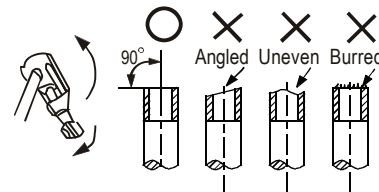

Fig. 9-1
- Cut the pipe with an approved pipe cutter (Refer to Fig. 9-1)